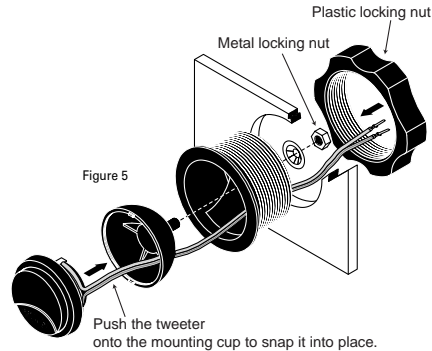

Figure 5
- For best treble response when tweeters are flush mounted in the I-Mount™ aim them at the listening position by adjusting the tweeter angle in the cup, tightening the small metal locking nut behind the assembly, and rotating the entire assembly in its mounting location before tightening the large plastic locking nut behind the panel (see Figure 5, page 3).